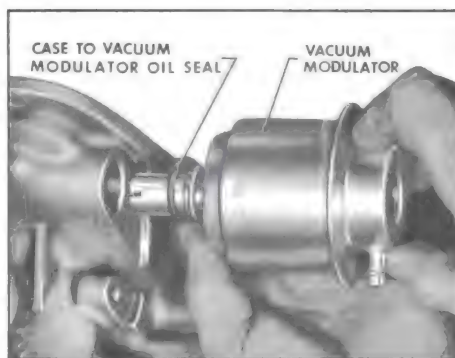

Figure 5-144
2. Inspect and if necessary remove vacuum modulator to case oil seal. See Figure 5-144.